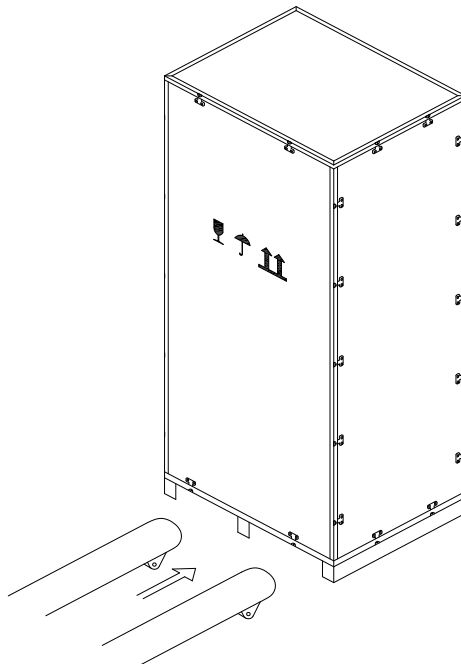

Figure 3-2 Transport to the designated site
- 2) Transport the equipment to the designated site by forklift, as shown in Figure 3-2 ;